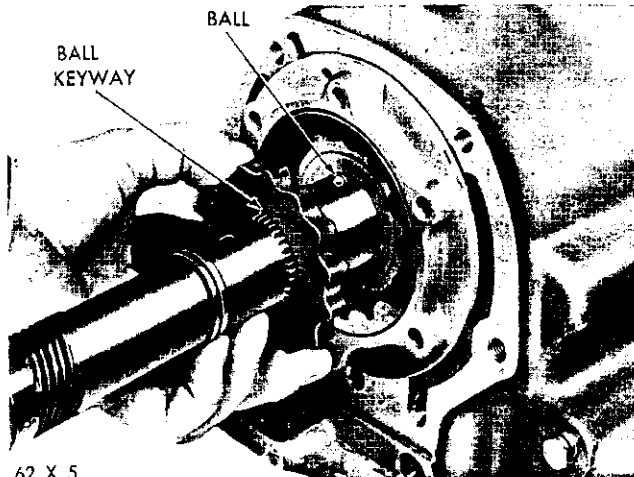

Fig. 42—Removing or Installing Rear Oil Pump Inner Rotor
(1) Remove the extension housing.
(2) Remove the governor and support assembly.
(3) Unscrew the rear oil pump cover retaining bolts and remove cover.
(4) The oil pump inner rotor is driven by the output shaft by a small ball. Therefore, use care in sliding out inner rotor so as not to lose the ball (Fig. 42). Remove outer rotor from the pump body.
- (1) Place the outer rotor in the pump body.
- (2) Rotate the output shaft so inner rotor driving ball pocket is up. Install the ball and slide inner rotor on the output shaft in alignment with the ball (Fig. 42).